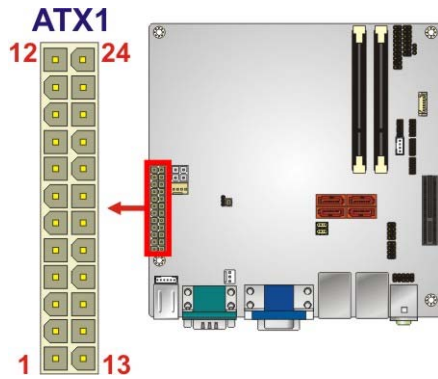

Figure 3-2: ATX Power Supply Connector Location
- CN Location:** See **Figure 3-2**